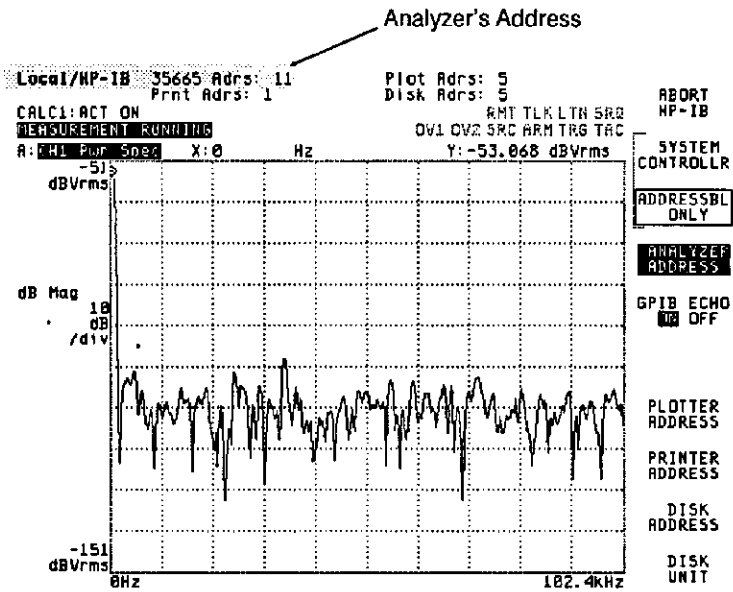

Figure 1-3. HP 35665A Screen After Pressing Local/HP-IB
4. Verify that the analyzer's address is set to 11. The current address setting is displayed when you press the [ANALYZER ADDRESS] softkey (see figure 1-3). You can change the address by pressing [ANALYZER ADDRESS], then using the numeric keypad and the [ENTER] softkey to enter a new value. However, the instructions in the verification procedure assume that the analyzer address is set to 11.